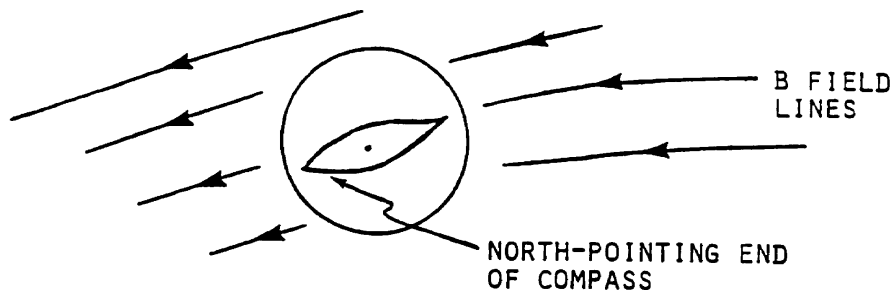

Figure 1: Diagram of the system for testing Ampere's Law.
Examine whether or not your data support the Kirchhoff's loop law. Start by writing the algebraic expression for Kirchhoff's loop law for the loop that contains the power supply,  $R_1$ , and  $R_3$ . Proceed similarly for the other two possible loops in Figure 1.
Using the circuit shown in Figure 1, measure the current flowing in and out of node  $N_1$  and record your measurements. Recalling that the DMM must be connected in series (with a circuit element), you must break the circuit at the points of measurement to insert the multimeter. For  $N_1$  you would want the meter to replace the wire between  $V_s$  and  $N_1$  for one measurement,  $N_1$  and  $R_1$  for another, and  $N_1$  and  $R_2$  for the final measurement. Before starting this, mark on the schematic in this manual where you think the meter should be inserted and check it with your lab TA. Don't forget to make sure the DMM is set and wired to measure DC current.
Examine whether or not your data support the Kirchhoff's node law. Start by writing the algebraic expression for Kirchhoff's node law for node  $N_1$  in Figure 1.
**Magnetic field lines.** Use a compass to investigate the magnetic field produced by a current in a straight wire. A compass needle orients itself with magnetic field lines, as indicated in Figure 1. The north pole of the compass points in the same direction as the field. **Note:** on our compasses, magnetic north is indicated by the red end of the needle.